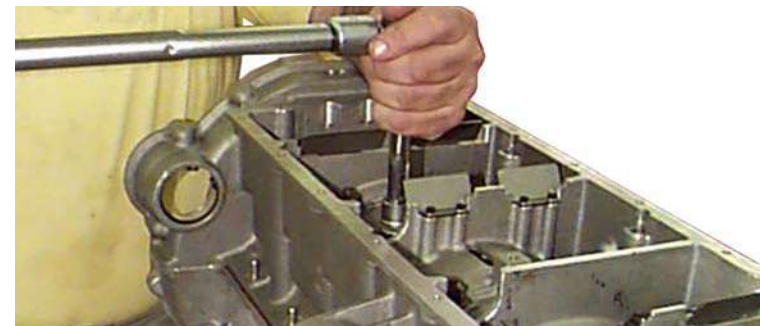

Fig.1
2. Unscrew the bolts which mount the crankcase to the lower part of the crankcase (Fig.1).